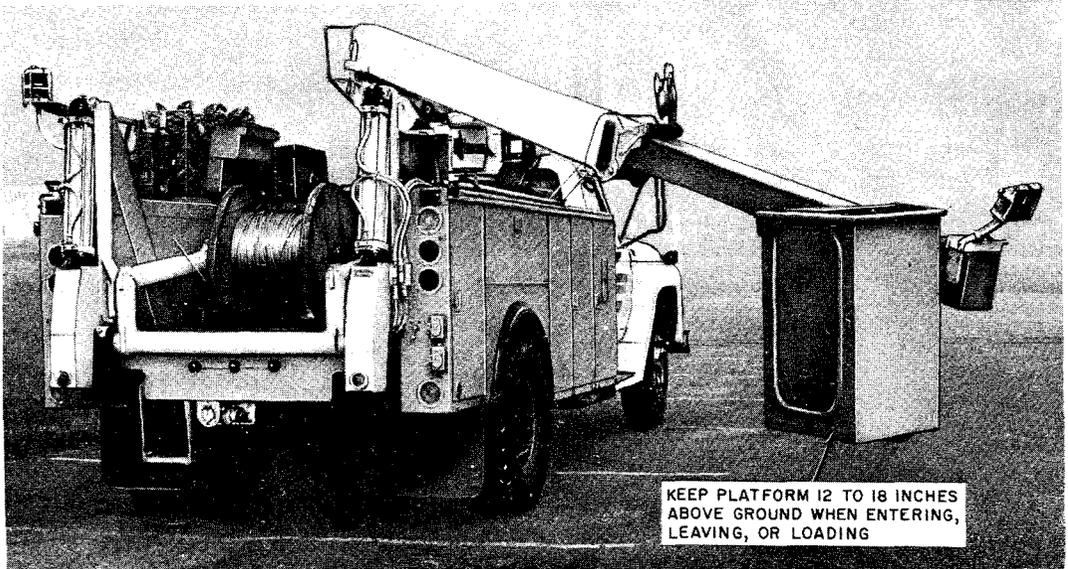

Fig. 11—Basket Positioned for Entering or Leaving
3.03 Enter and leave the platform only when it is in the position shown in Fig. 11. Use the control head located on the turret to position the basket for entry and to place the equipment
4.06 After work operations aloft have been completed, the operator will leave the platform only after it has been placed as shown in Fig. 11. Tools and equipment used by the operator will be removed from the platform and the lift placed in the stowed position by using the controls on the turret.